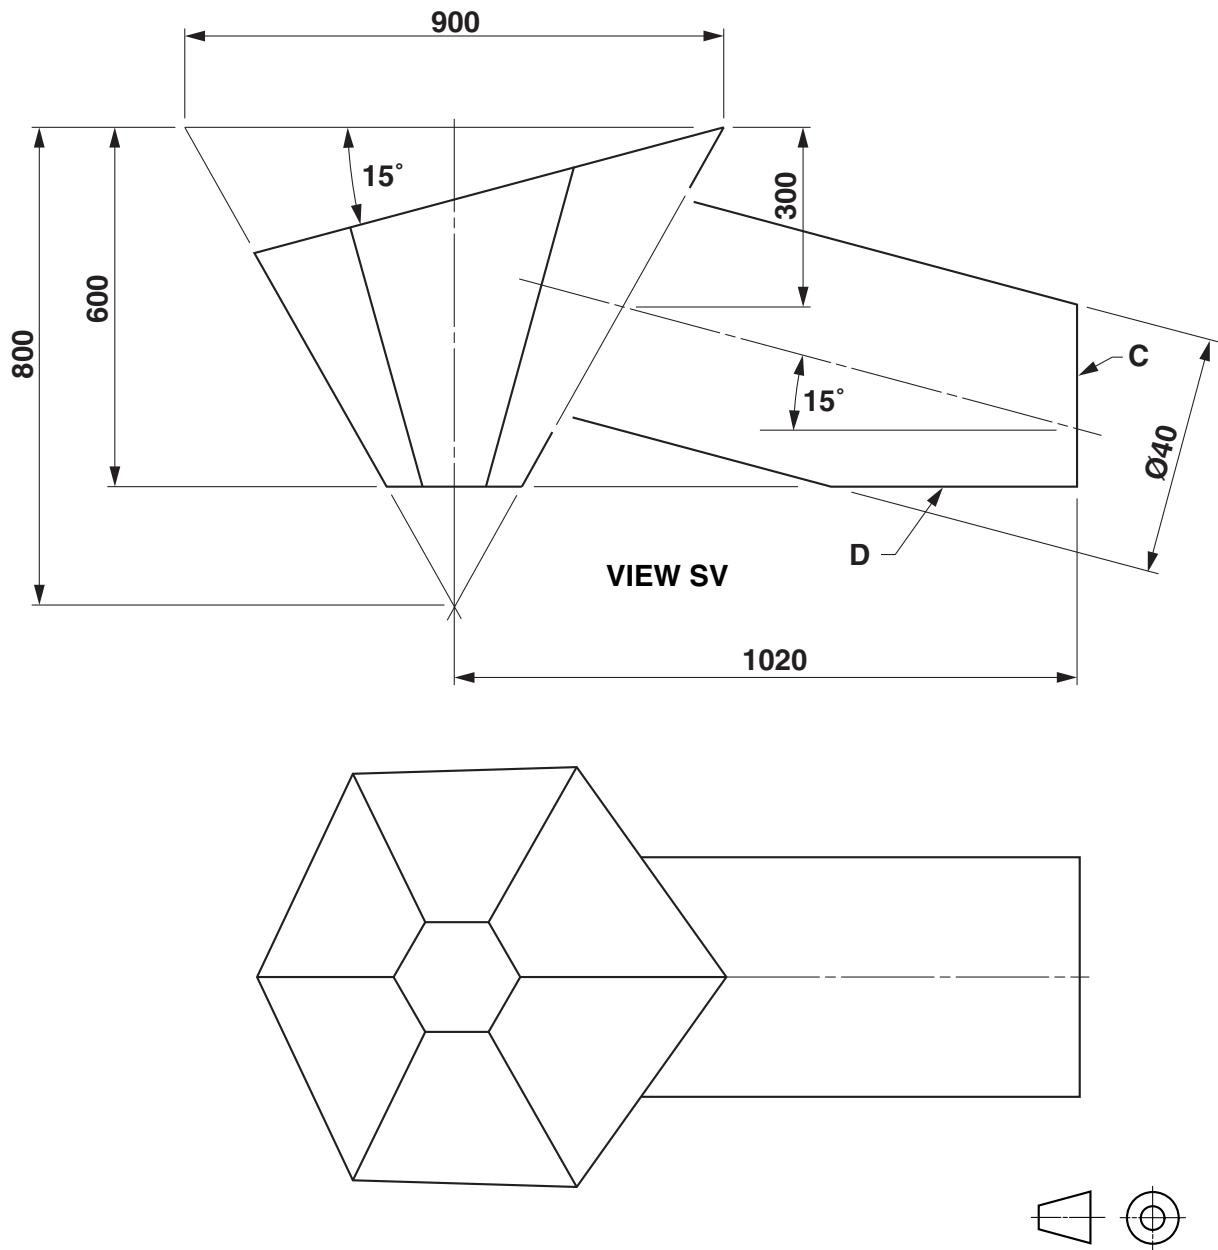

Fig. 6
- 6 Part of a sheet metal ornamental garden feature is shown in the incomplete orthographic views, Fig. 6. The feature consists of a truncated right hexagonal pyramid intersected by a cylinder.